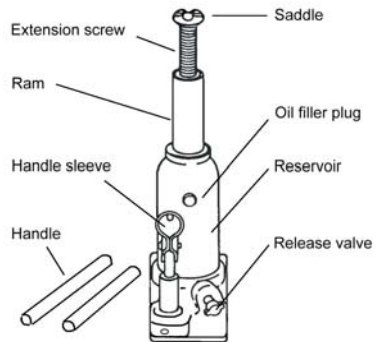

Figure 1
- Use the notched end of the provided handle to engage and open the release valve counterclockwise for no more than 1/2 full turn(see figure 1) .
- Close the release valve (see figure 1) by turning it clockwise with the provided handle until it is firmly closed. DO NOT OVER TIGHTEN.